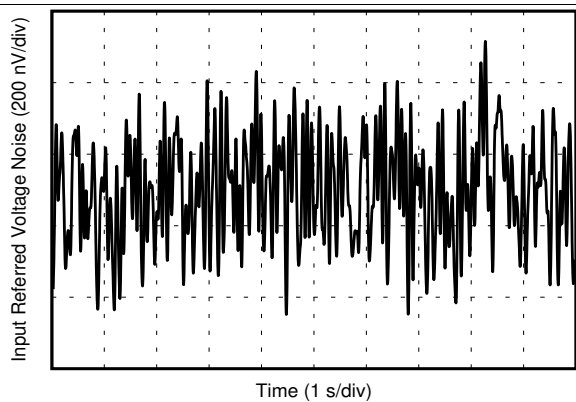

Figure 15. 0.1-Hz to 10-Hz Voltage Noise
0.1-Hz to 10-Hz Voltage Noise	<a href="#">Figure 15</a>